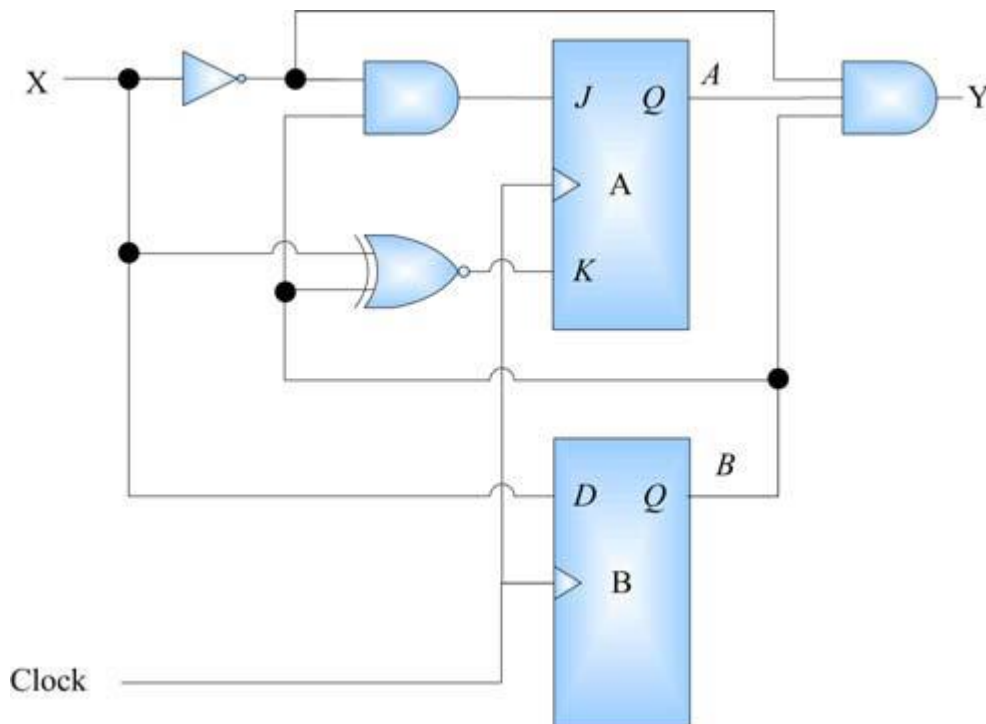

Figure 5: Circuit Diagram of the Sequence Recognizer
- Finally the logic diagram of the sequential circuit can be made as shown in Figure 5.